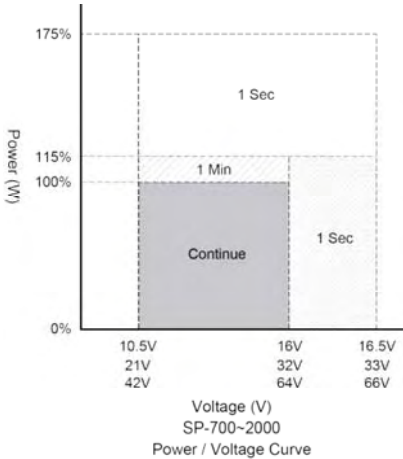
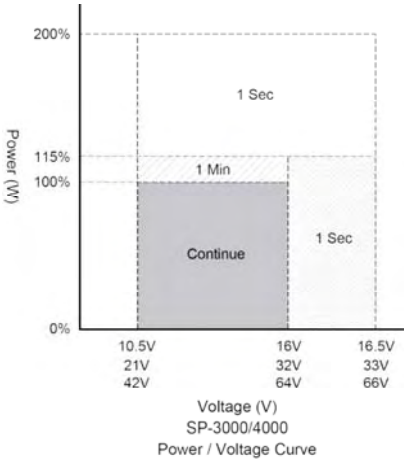

Figure 1. SP-700~2000
Figure 2. SP-3000/4000
- ① Voltage range : Please refer to Figure 1
- ② Normal load Condition : Vin =12.5V/25V/50V, Vo=200/220/230/240 VAC 80% Full load (PF=1.0)
- ③ Operating temperature : Please refer to Figure 2
- ④ **Warning** : This is a class A product. In a domestic environment this product may cause radio interference in which case the user may be required to take adequate measures.
① Voltage range : Please refer to Figure 1
② Normal load Condition : Vin =12.5V/25V/50V, Vo=100/110/115/120 VAC 80% Full load (PF=1.0)
③ Operating temperature : Please refer to Figure 2
④ **Warning** : This is a class A product. In a domestic environment this product may cause radio interference in which case the user may be required to take adequate measures.
- ② Normal load Condition : Vin =25V/50V, Vo=200/220/230/240 VAC 80% Full load (PF=1.0)